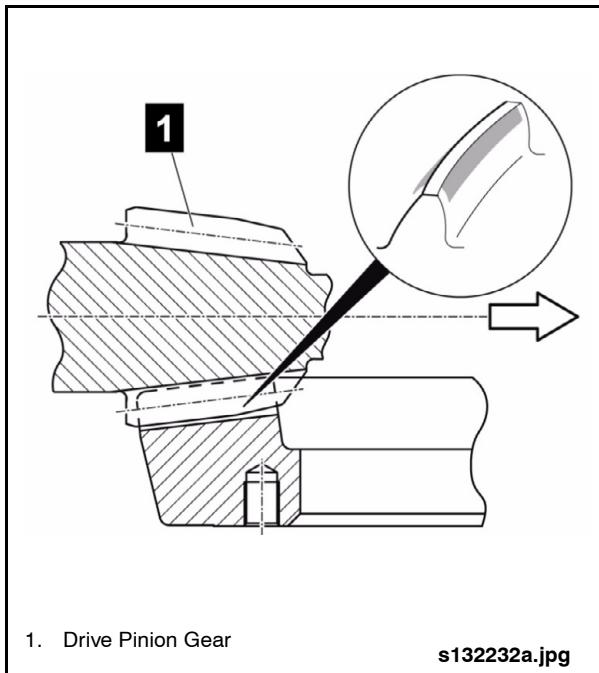

Fig. 2-74: Contact on Tooth Tip
1. If there is contact at the tooth tip, increase the installation depth of the drive pinion by using thinner shims. See "Fig. 2-74: Contact on Tooth Tip" on page 61.